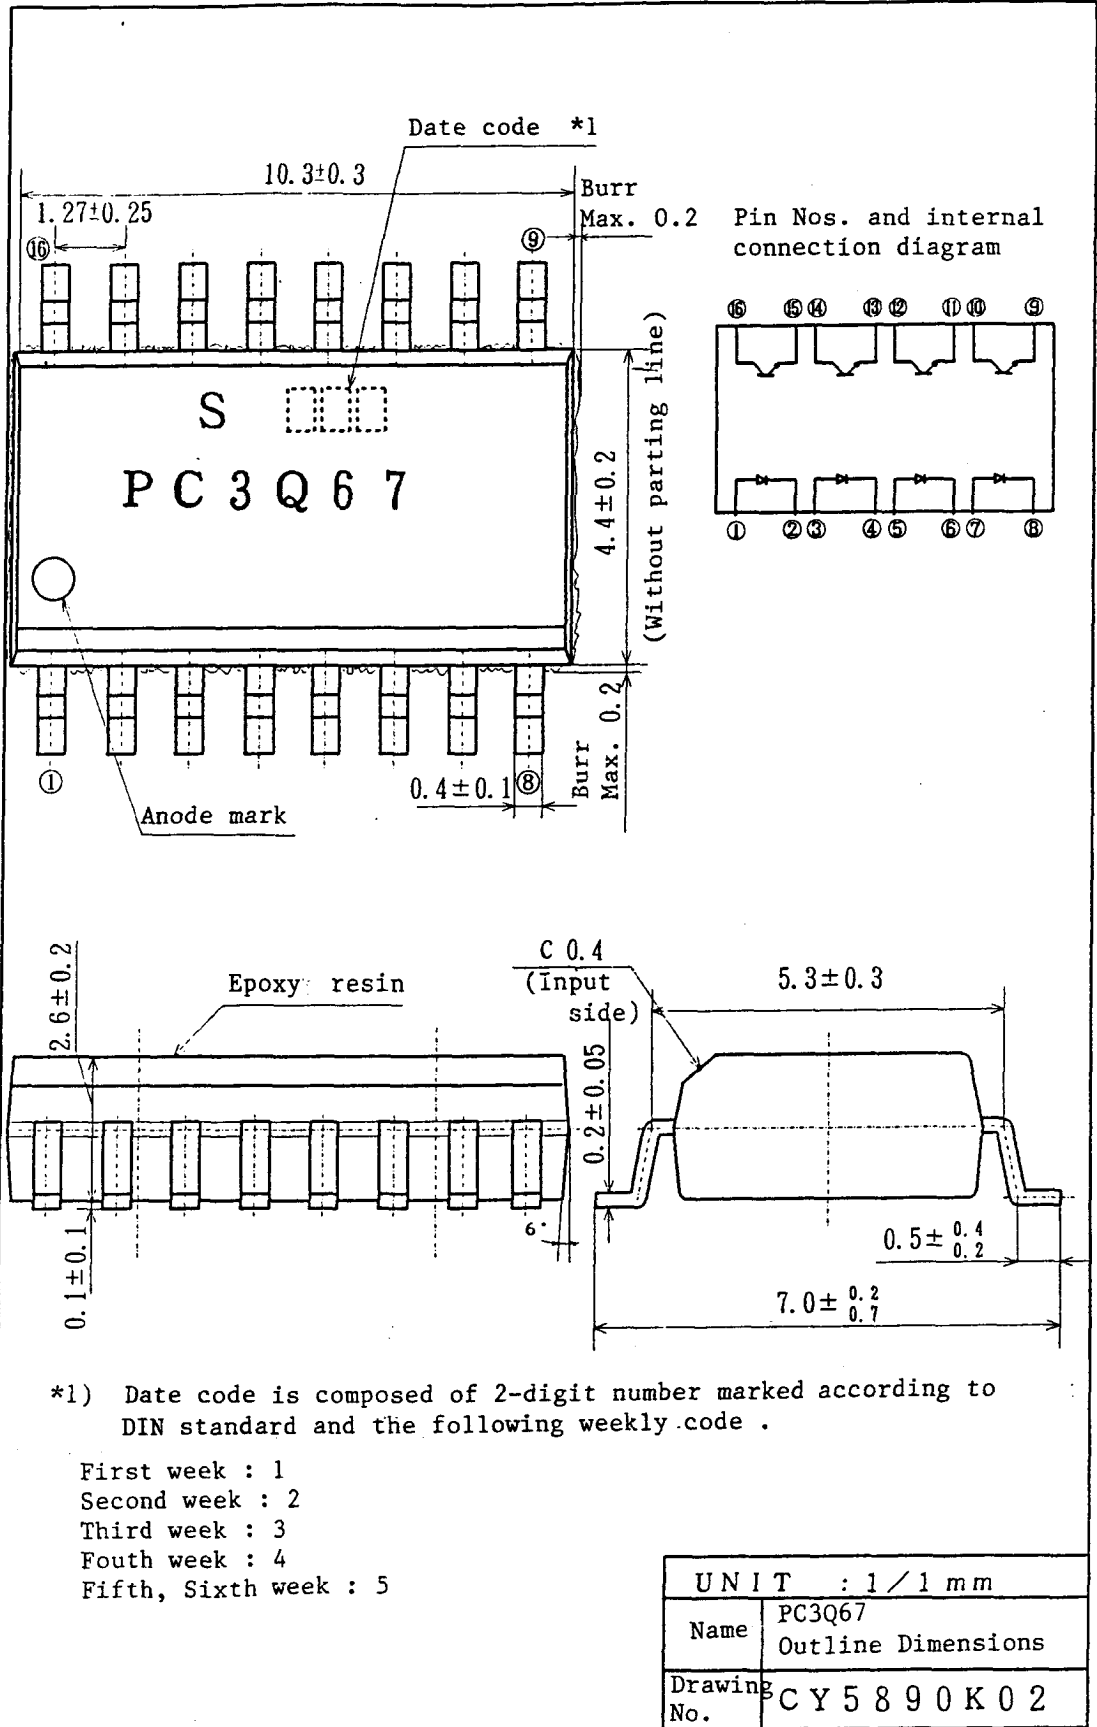

Fig. 1 Forward current vs. ambient temperature
*1 The derating factors of absolute maximum rating due to ambient temperature are shown in Fig. 1 ~ 4.